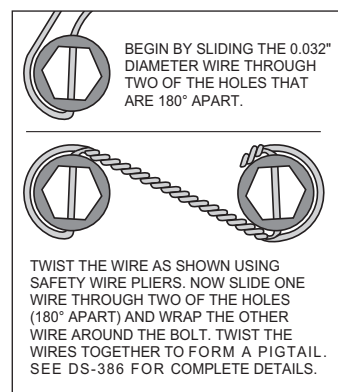

Figure 4
STEP 4 Orient the rotor (7) and the hat (8) as shown in Figure 1 and Photo 3. Attach rotor to hat using bolts (9) and washers (10). Apply red *Loctite*® 271 to the bolt threads and torque to value shown in Figure 1 using a criss-cross pattern. For an added measure of security, the bolts may be safety wired using standard 0.032 inch diameter stainless steel safety wire as shown in Figure 4. Refer to Wilwood's data sheet DS-386 (available at www.wilwood.com/Pdf/DataSheets/ds386.pdf) for complete safety wire installation instructions.
STEP 5 Slide the rotor registration adapter (11) onto the axle register on the axle flange with the smaller O.D. facing toward the rotor/hat (7/8), Photo 4. Slide the assembled rotor/hat (7/8) onto the axle flange. **NOTE:** The rotor/hat must fit flush against the axle flange or excessive rotor run out may result. Install three lug nuts (finger tight) to keep the rotor/hat assembly in place while continuing with the installation, Photo 5.